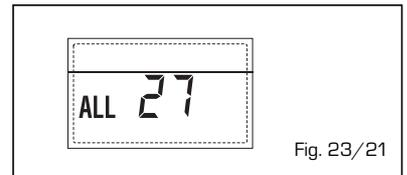

Fig. 23/21
- **ANOMALIA COERENZA INGRESSO (S3) SOLO PER IMPIANTO 7 "ALL 28"** (fig. 23/22)